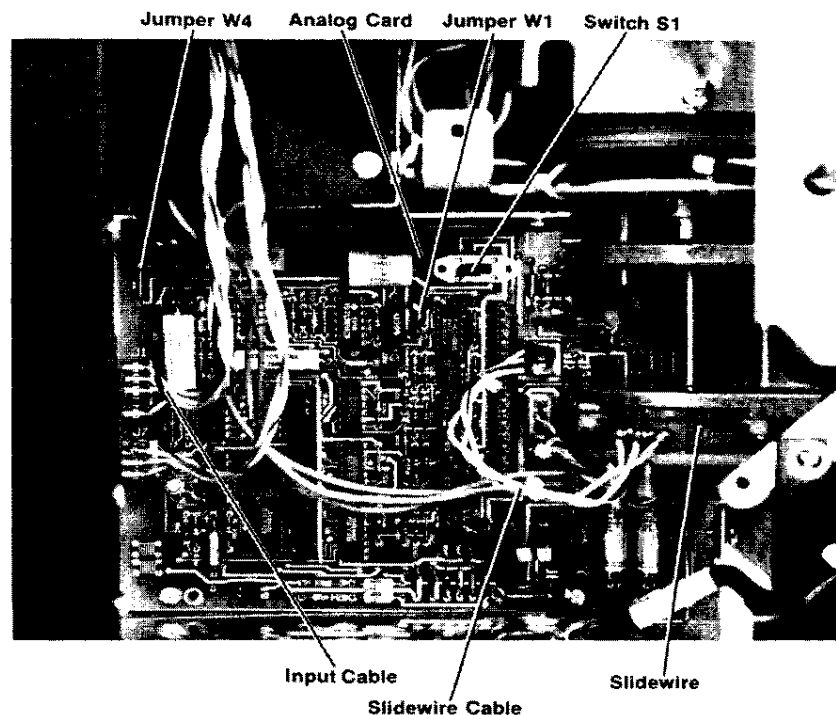

Fig. 8-6—Chassis, left side view, Analog card housing cover removed.
- Refer to Fig. 8-6, and disconnect the input cable from connector J1. For 2500(RTD) Recorders, disconnect the cable from connector J7 also.